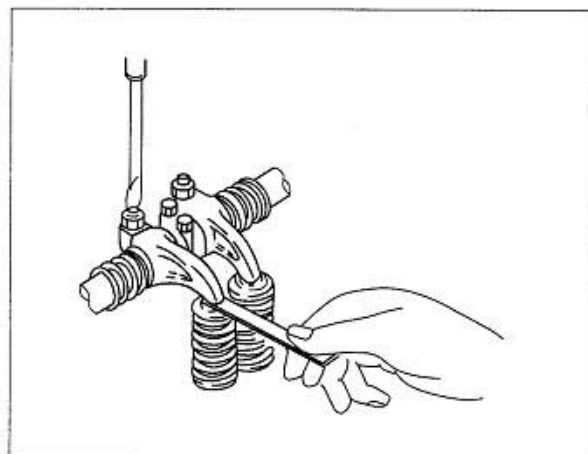

Figure 3-21 Check Valve Clearance with Feeler Gauge
(2) Loose the rocker arm nut, and then insert the feeler gauge between rocker arm and valve, turn the adjusting screw with the help of screwdriver to make the feeler could move a little but not smoothly, and then tighten the nut (see Figure 3-21).